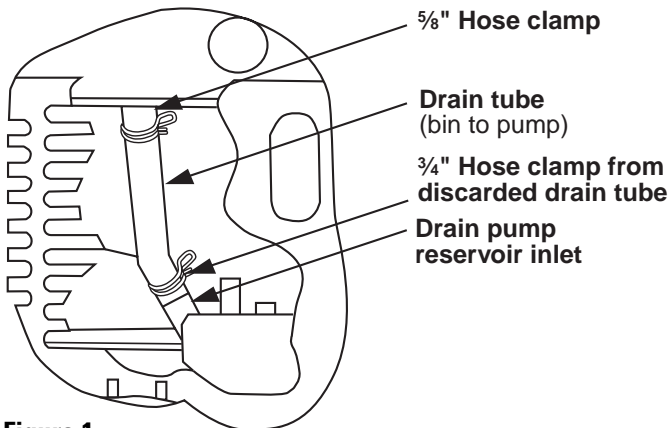
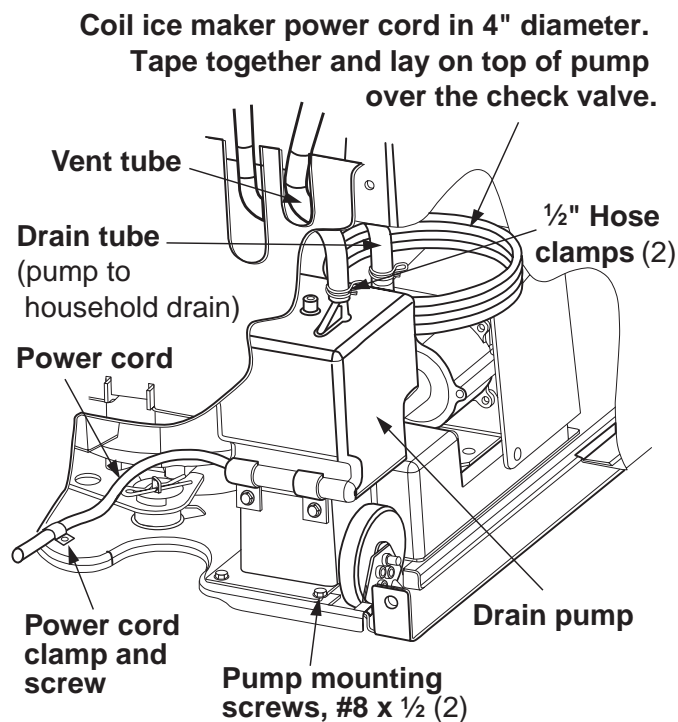
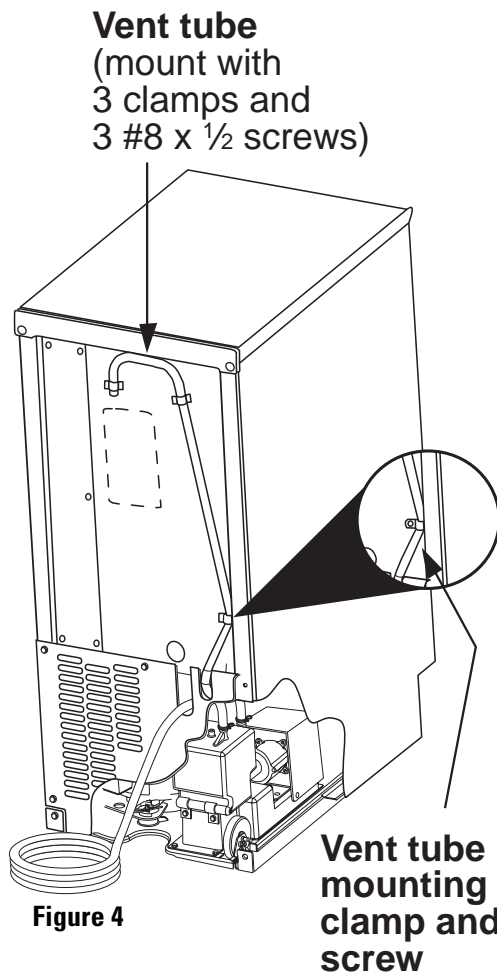

Figure 1
Figure 3
Figure 4
4. Install new drain tube (5/8" ID x 4 1/2") using new 5/8" clamp to bin. See Figure 1.
9. Attach drain tube from bin to pump using hose clamp from step 3 previously used on old drain tube. See Figure 1. Attach drain tube to pump check valve outlet using 1/2" hose clamp. Attach vent tube to pump using 1/2" hose clamp. See Figure 3. Route the vent tube and drain tube through cutouts provided in rear cover. See Figure 4.
10. Line up the two (2) screw holes at the rear of pump. Use two (2) #8 x 1/2" screws supplied to secure pump. See Figure 3.
11. Secure vent tube to back of icemaker using three (3) clamps and three (3) #8 x 1/2" screws supplied. See Figure 4.